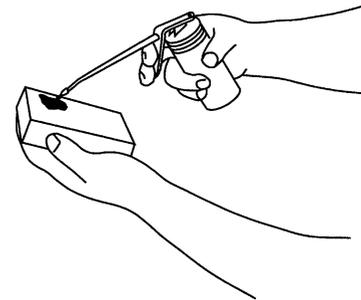

Figure 17
6. Apply one tablespoon of SAE 30W oil to the air filter (Fig. 17).